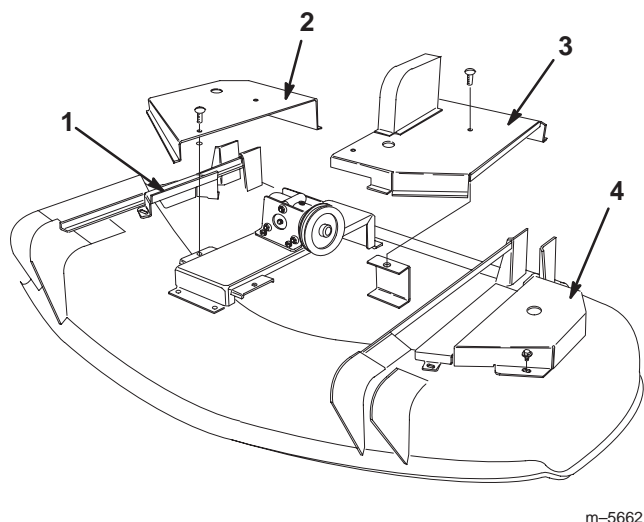

Figure 27
1. Loosen the fasteners holding the left and right center deck covers and remove both center deck covers (Fig. 27).
2. Remove the flange screws holding the left and right covers to the deck and remove both covers (Fig. 27).
1. Deck Belt 4. Spindle Pulley (3)
7. Install the four deck covers onto the cutting unit (Fig. 27).